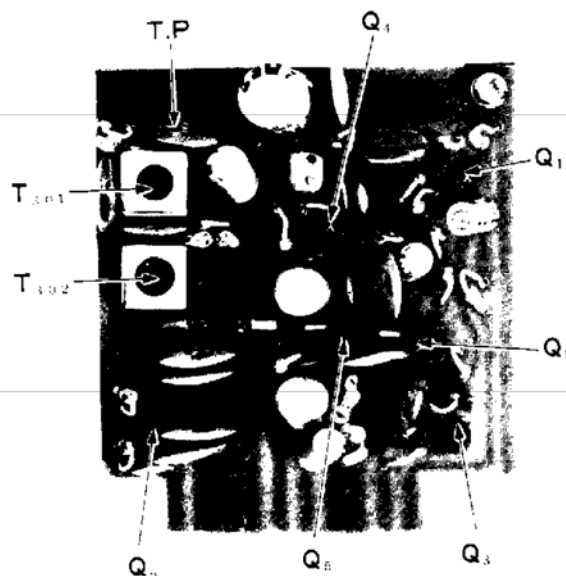

Fig. 22 FM UNIT
(1) T301 and T302
- Connect the DC probe of a VTVM to the test point shown as TP in Figure 22.